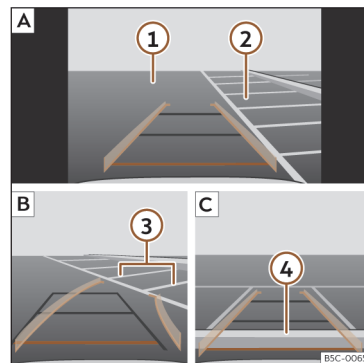

Fig. 121 Display on the infotainment system screen.: parking with reverse assist.
Key to the **Fig. 121**:
- Place the vehicle in front of the parking space >>> **Fig. 121** ② **A**.
- Reverse while turning the steering wheel so that the yellow lines enter the parking space. The green and yellow lines must match the side boundary lines ③ **B**.
- Stop the vehicle when the red line has reached the rear boundary ④ **C**.